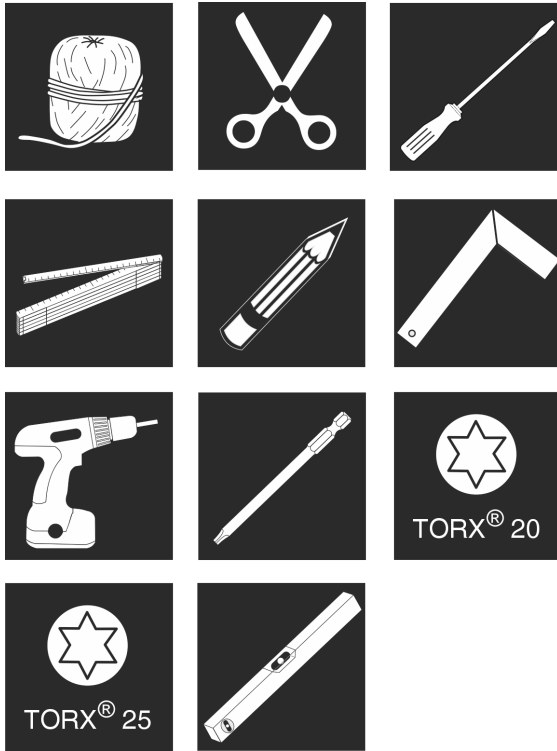

Fig. 9
1. Have your tools ready. *Fig. 9 ()*